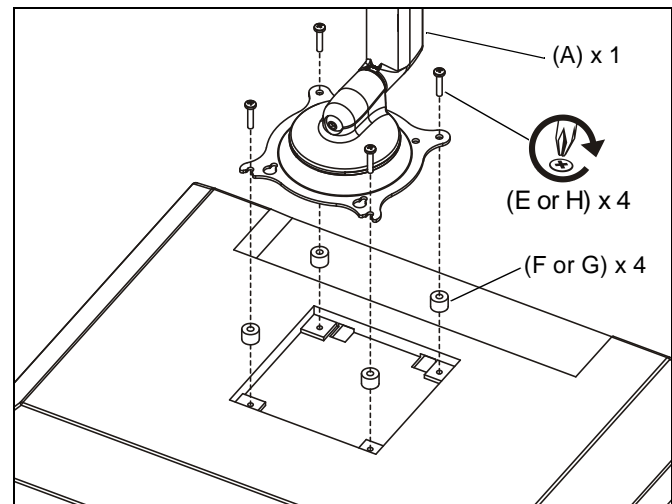

Figure 3
IMPORTANT ! : Spacers (F, G) are used only if your display has a recessed mounting surface, and the Centris bracket will not fit into that cavity. (See Figure 3)
2. Place four spacers (F,G) over each mounting hole on display. (See Figure 3)
3. Orient mount (A) so that mounting holes in Centris cup are aligned with holes in spacers (F,G). (See Figure 3)
4. Using Phillips screwdriver, install four screws (E,H) through mounting holes/cutouts in Centris cup, through spacers (F,G), and into the display. (See Figure 3)
IMPORTANT ! : If your display has a recessed mounting hole cavity, and the Centris bracket will not fit into that cavity (See Figure 3), then follow the "Recessed Mount Display" procedure.